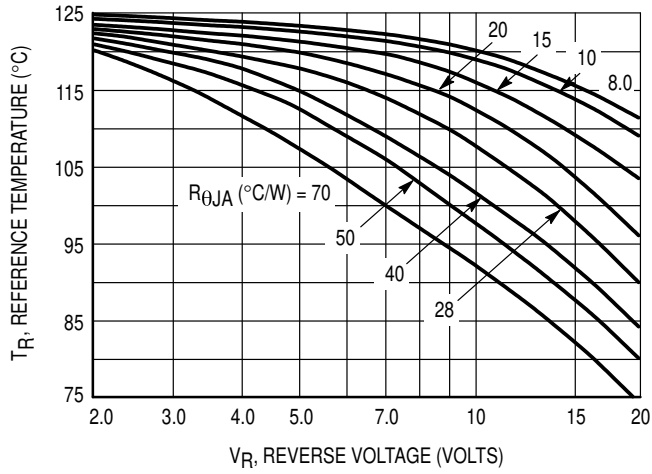

Figure 1. Maximum Reference Temperature
Figures 1, 2, and 3 permit easier use of equation (1) by taking reverse power dissipation and thermal runaway into consideration. The figures solve for a reference temperature as determined by equation (2).
Inspection of equations (2) and (3) reveals that  $T_R$  is the ambient temperature at which thermal runaway occurs or where  $T_J = 125^\circ\text{C}$ , when forward power is zero. The transition from one boundary condition to the other is evident on the curves of Figures 1, 2, and 3 as a difference in the rate of change of the slope in the vicinity of 115°C.
The data of Figures 1, 2, and 3 is based upon dc conditions. For use in common rectifier circuits, Table 1 indicates suggested factors for an equivalent dc voltage to use for conservative design, that is: